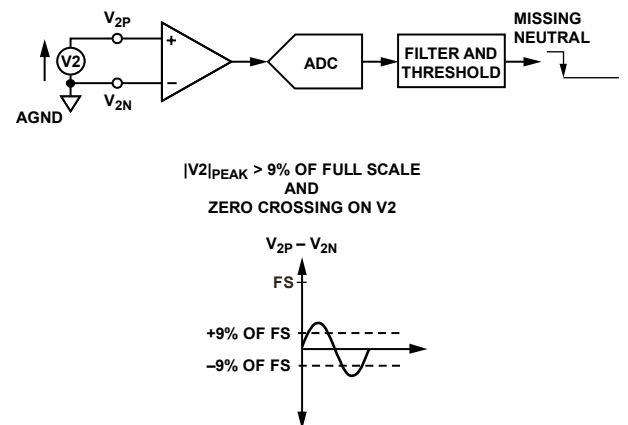

Figure 34. Return to Normal Mode after Missing Neutral Detection
**Case 1:** When the analog input  $V_{2P} - V_{2N}$  complies with the conditions described in Figure 34, CF, F1, and F2 frequencies are proportional to active power and can be used to bill active energy.
**Case 2:** When the analog input  $V_{2P} - V_{2N}$  does not comply with the conditions described in Figure 34, the ADE7761A does not measure active energy but a quantity proportional to kAh. This quantity is used to generate pulses on the same CF, F1, and F2. This situation is indicated when the FAULT pin is high.
The ADE7761A leaves the missing neutral mode for normal operation when both conditions are no longer valid, that is, a voltage peak value of greater than 9% of full scale and zero crossing on the voltage channel is detected (see Figure 34).